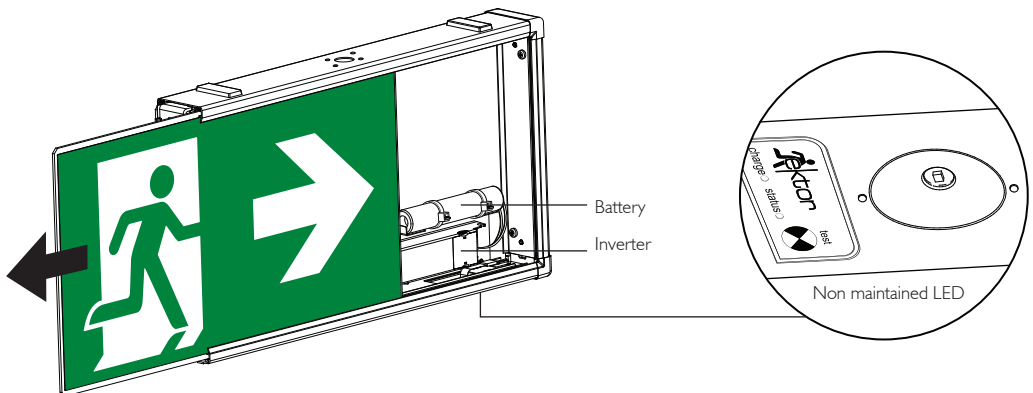

Figure 2: Mercury III decal removal
3. The Mercury III Jumbo decals and diffuser can be removed by sliding them across as shown in **figure 2**.